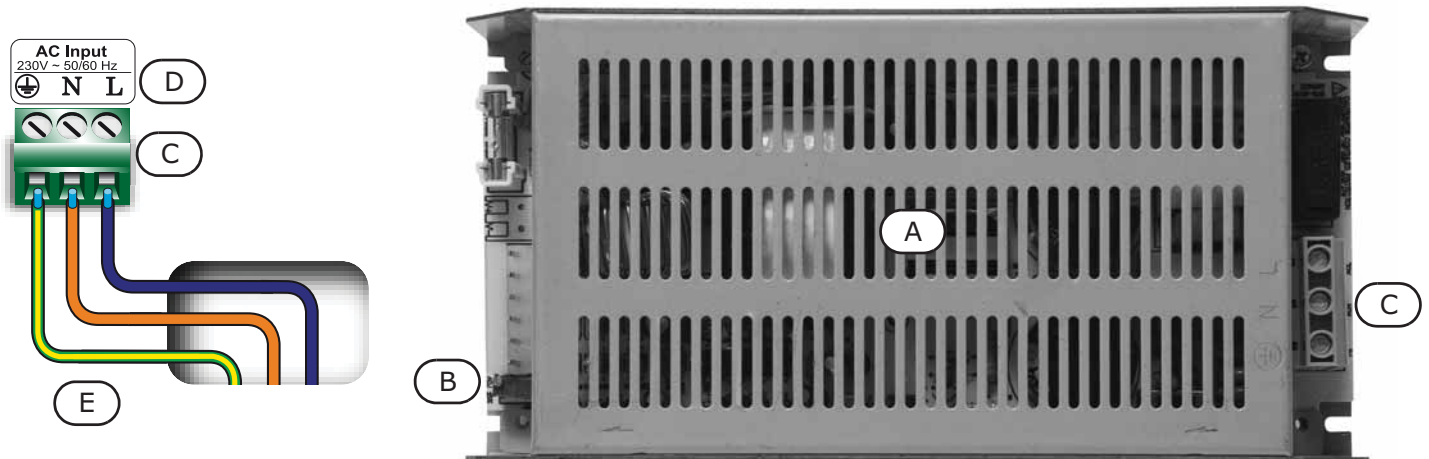

Figure 29 - Switching power-supply and mains connection
7. Adjust the trimmer (Figure 29 - [B]) on the switching power-supply (Figure 29 - [A]) to the value indicated on the graph.
Danger: **DO NOT power up the system with a non-compliant voltage (Figure 29 - [B]).**
For a safety standards compliant system, the Line must be connected to terminal "L", the Neutral conductor to terminal "N" and Earth to terminal "⊕" (Figure 29 - [C]).
2. After connecting the conductors to the power module terminals (Figure 29 - [E]), using a cable tie, bunch the wires together and attach them firmly to one of the cable hooks on the backbox.